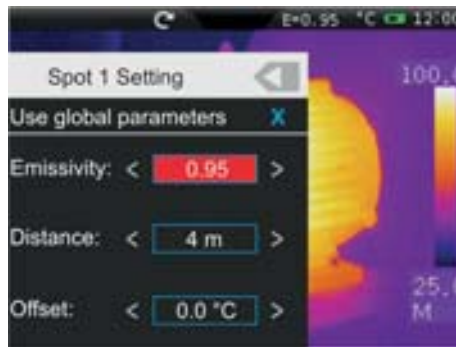

Fig. 23: Setting the parameters associated with the cursors
8. With the previous option deactivated (see Fig. 23) it is possible to associate values of parameters **“Emissivity”**, **“Distance”** and **“Offset”** different from the global ones to the cursor. To this purpose, touch the field of the parameter highlighted in red and the symbols **“<”** and **“>”** to decrease or increase the value. Keep the keys pressed for a quick selection of the values, The measuring ranges are the following:
7. With the previous option deactivated (see Fig. 23) it is possible to associate values of parameters “Emissivity”, “Distance” and “Offset” different from the global ones to the line. To this purpose, touch the field of the parameter highlighted in red and the symbols “<” and “>” to decrease or increase the value. Keep the keys pressed for a quick selection of the values, The measuring ranges are the following:
6. With the previous option deactivated (see Fig. 23) it is possible to associate values of parameters “Emissivity”, “Distance” and “Offset” different from the global ones to the area. To this purpose, touch the field of the parameter highlighted in red and the symbols “<” and “>” to decrease or increase the value. Keep the keys pressed for a quick selection of the values, The measuring ranges are the following: